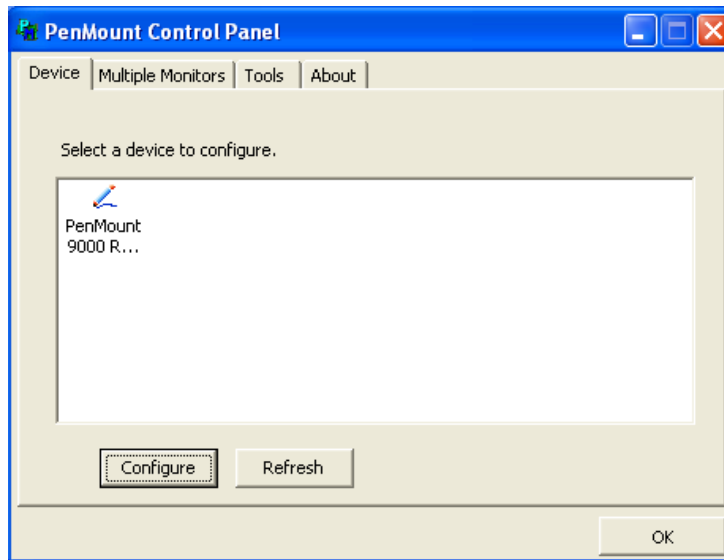

Figure 5-28: Configuration Screen
Step 5: The configuration screen in **Figure 5-28** appears.
Step 6: Double click the PenMount 9000 icon as shown in **Figure 5-28**.